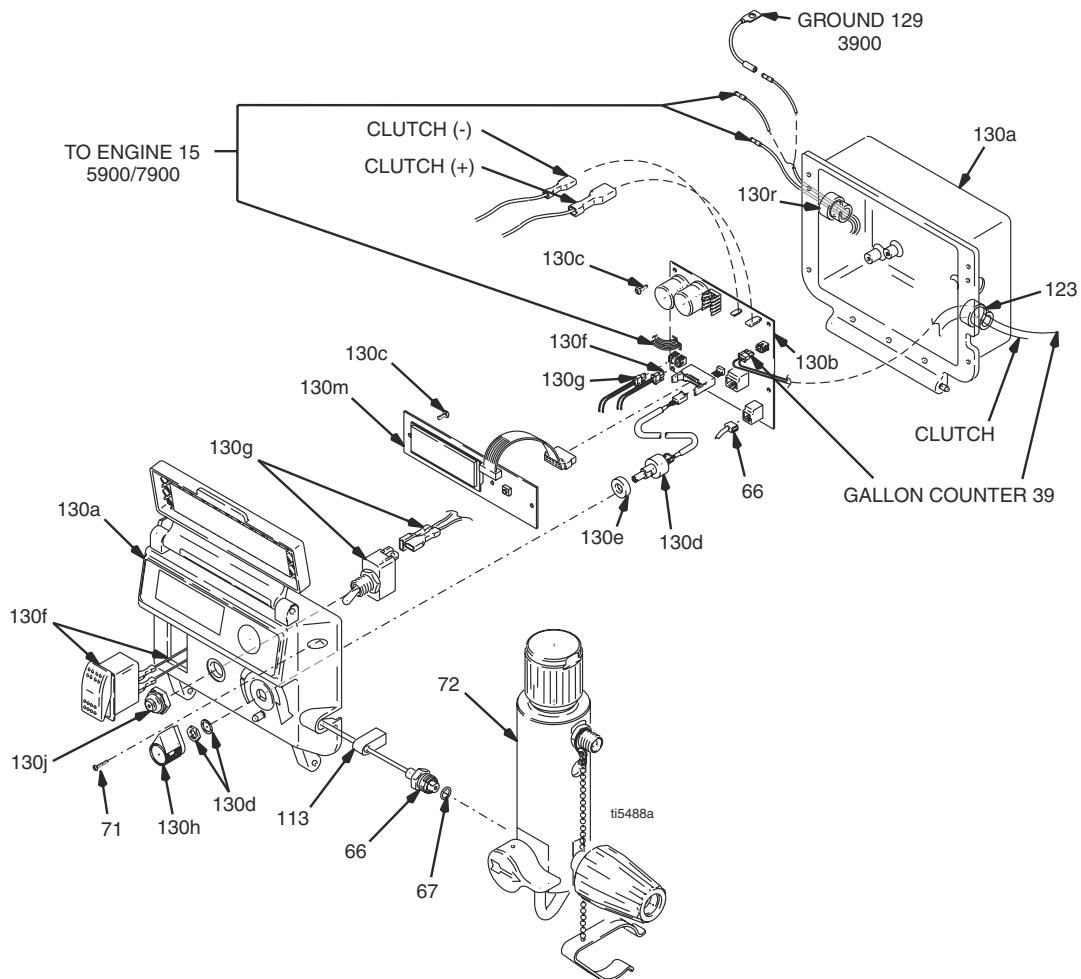

FIG. 14
- a. FIG. 14. Remove two screws (71) and swing down cover (130a).
12. FIG. 14. Connect clutch cable connectors to inside of pressure control.
1. FIG. 14. Remove two screws (71) and swing down cover (130a).
1. FIG. 14. Remove two screws (71) and swing down cover (130a)
- Lead from transducer (66)
- Lead from gallon counter sensor (39)
1. FIG. 14. Install control board (130b) with four screws (130c).
2. Disconnect transducer (66) lead from control board (130b).
3. Pull transducer connector through rubber grommet (113).
4. Remove pressure control transducer (66) and o-ring (67) from filter housing (72).
1. FIG. 14. Install o-ring (67) and pressure control transducer (66) in filter housing (72). Torque to 35 - 45 ft-lb.
3. Connect transducer (66) lead to control board (130b).
4. Swing up cover (130a) and secure with two screws (71).
2. FIG. 14. Install potentiometer, shaft nut, lock washer and potentiometer knob (130h).